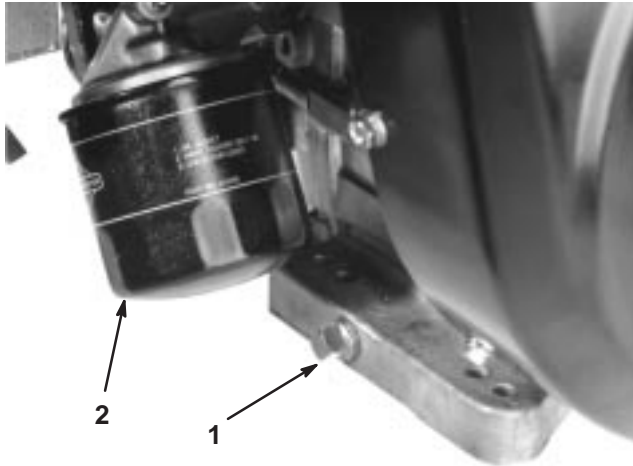

Figure 33
1. Remove the drain plug (Fig. 33) and let oil flow into a drain pan. When the oil stops, install the drain plug.
2. Remove the oil filter (Fig. 33). Apply a light coat of clean oil to the new filter gasket.